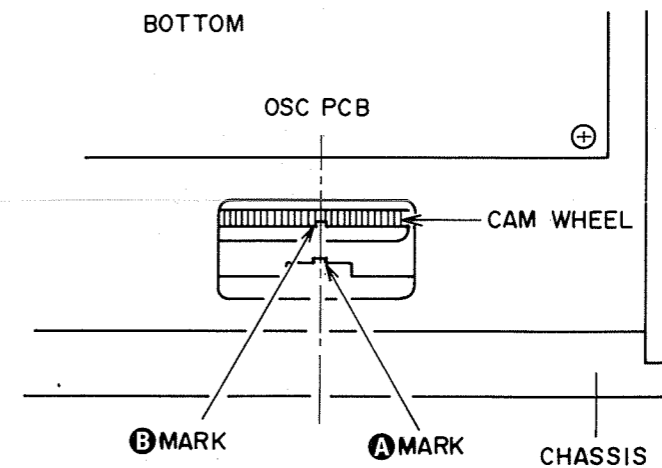

Fig. 4-2
- b. Adjust VR1 slightly so that the center of marker ③ coincides with the center of marker ① in the STOP mode as shown on Fig. 4-2. (The marker ③ on the CAM WHEEL can be seen clearly by lighting it from the back.)